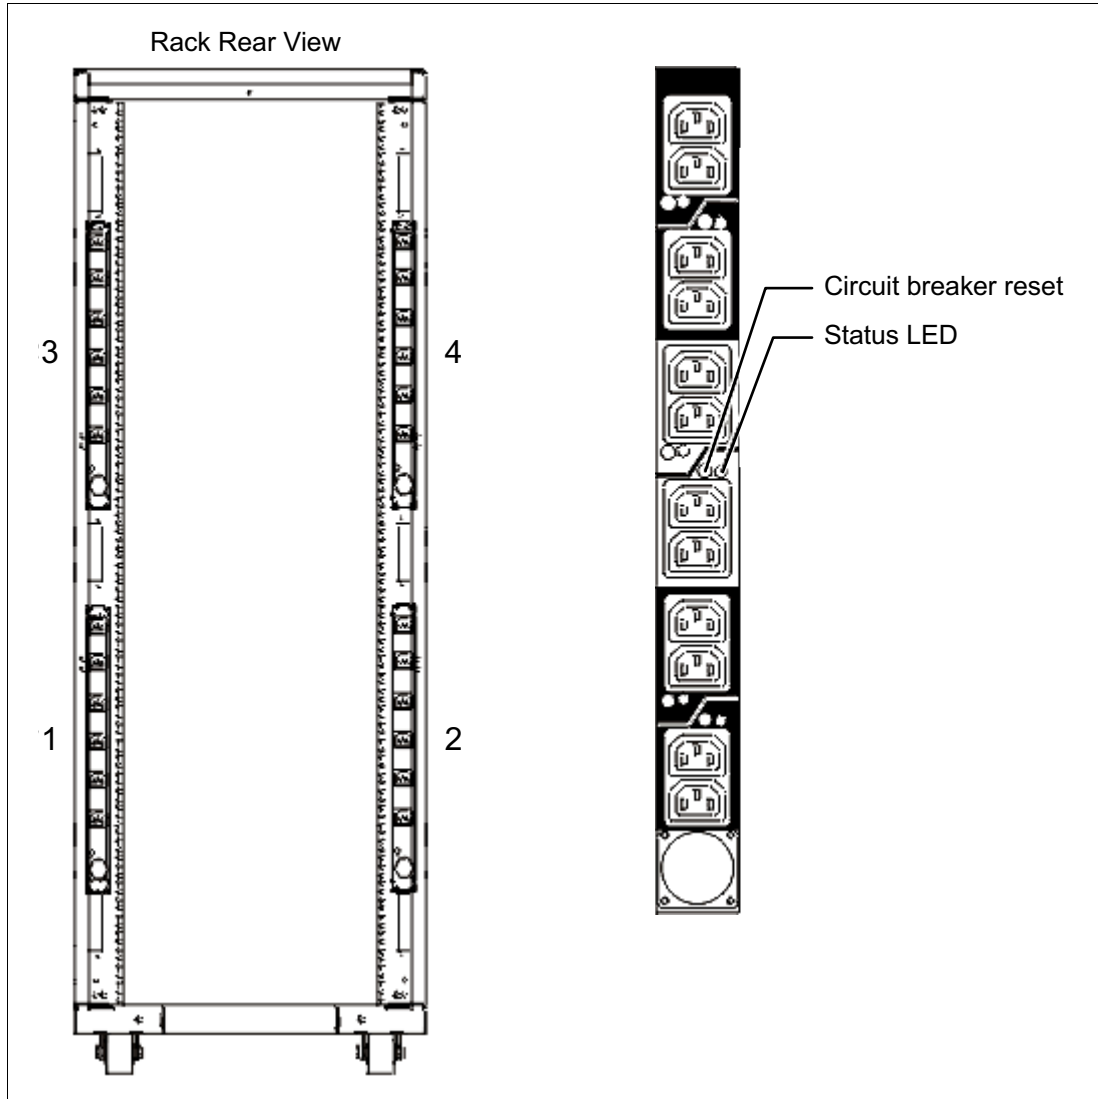

Figure 1-10 PDU placement and PDU view
- ▶ Up to four power distribution units (PDUs) can be mounted in the PDU bays (see Figure 1-10 on page 33), but others can fit inside the rack. See 1.13.5, “The AC power distribution unit and rack content” on page 32.
Four PDUs can be mounted vertically in the back of the T00 and T42 racks. Figure 1-10 shows placement of the four vertically mounted PDUs. In the rear of the rack, two additional PDUs can be installed horizontally in the T00 rack and three in the T42 rack. The four vertical mounting locations will be filled first in the T00 and T42 racks. Mounting PDUs horizontally consumes 1U per PDU and reduces the space available for other racked components. When mounting PDUs horizontally, the best approach is to use fillers in the EIA units that are occupied by these PDUs to facilitate proper air-flow and ventilation in the rack.